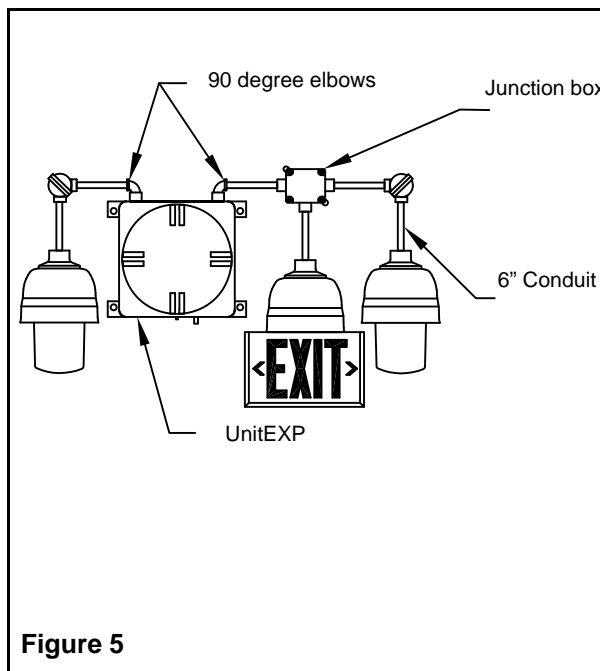

Figure 5
- Remove junction box cover (see fig. 5). Remove conduit plugs from inside.